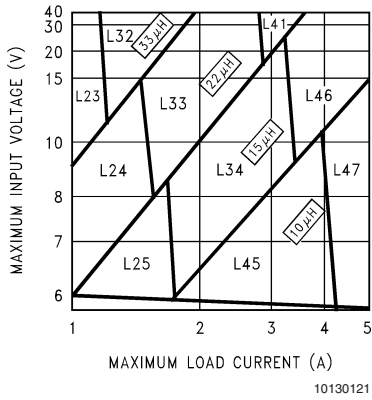
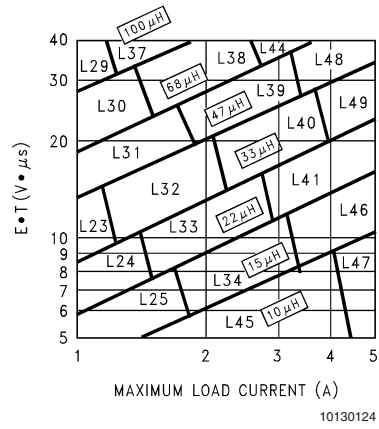

FIGURE 3. LM2677-3.3
FIGURE 6. LM2677-ADJ
**Step 3:** Determine the inductor required by using one of the four nomographs, *Figure 3* through *Figure 6*. Table 1 provides a specific manufacturer and part number for the inductor.
**Step 5:** Determine an input capacitor from Table 4 for fixed output voltage applications. Use Table 2 to find the specific capacitor type. For adjustable output circuits select a capacitor from Table 2 with a sufficient working voltage (WV) rating greater than  $V_{in\ max}$ , and an rms current rating greater than one-half the maximum load current (2 or more capacitors in parallel may be required).
**Step 3:** Use the nomograph for the 3.3V device, *Figure 3*. The intersection of the 16V horizontal line ( $V_{in\ max}$ ) and the 2.5A vertical line ( $I_{load\ max}$ ) indicates that L33, a 22 $\mu H$  inductor, is required.
**Step 3:** To use the nomograph for the adjustable device, Figure 6, requires a calculation of the inductor Volt•microsecond constant (E•T expressed in V•µS) from the following formula:
Using Figure 6, the intersection of 27V•µS horizontally and the 2A vertical line (Iload max) indicates that L38, a 68µH inductor, should be used.
**Important Note:** When using the adjustable device in low voltage applications (less than 3V output), if the nomograph, Figure 6, selects an inductance of 22µH or less, Table 6 does not provide an output capacitor solution. With these conditions the number of output capacitors required for stable operation becomes impractical. It is recommended to use either a 33µH or 47µH inductor and the output capacitors from Table 6.